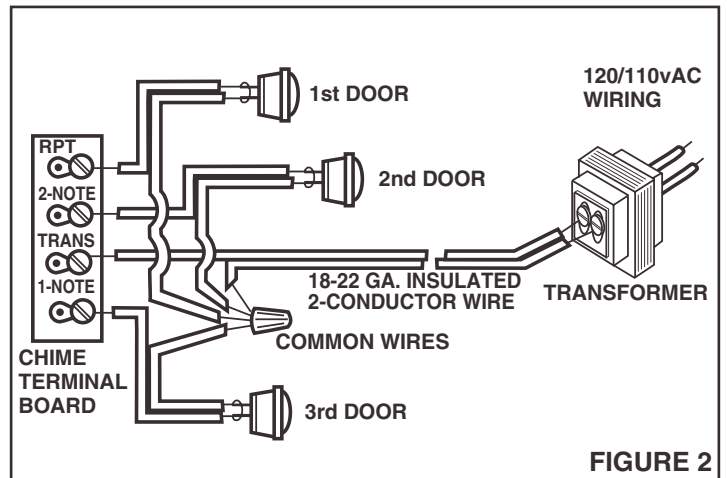

FIGURE 2
2. Refer to Figure 2. Label all wires. Run 18-22 gauge 2-conductor wire from transformer and pushbuttons to chime location.
Refer to Figure 2. Make wire connections to terminals as shown. Using wire connector, join all common wires.